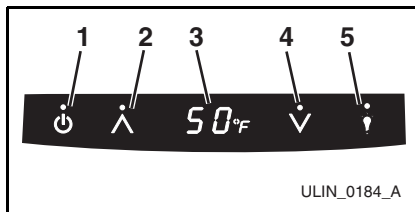

Figure 3
To turn the unit on or off, touch and hold the POWER icon (Figure 3, 1) on the display panel for approximately five seconds until the °F symbol flashes and release.
- The display (Figure 3, 3) will show the unit set-point temperature when the unit is on and will show OFF when the unit is off.
The LIGHT icon (Figure 3, 5) on the control panel is used to change the lighting functions.
1. Touch and release the LIGHT icon (Figure 3, 5) to switch from drawer-operated lighting control to continuous lighting (the °F symbol will flash briefly after the LIGHT icon is pressed).